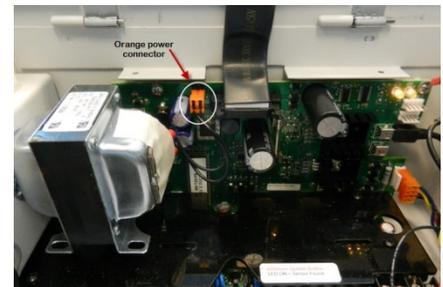

Figure 2
- c. Find the orange power connector on the wires coming from the transformer. Gently pull the connector away from the board to disconnect the power. (See Figure 2.)